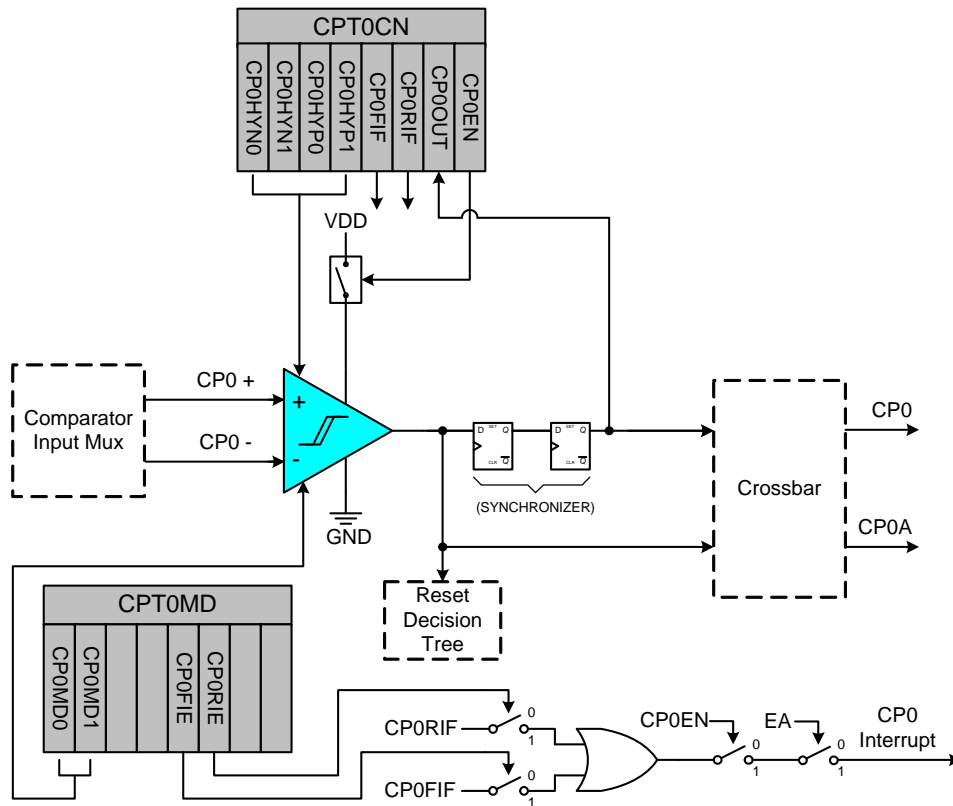
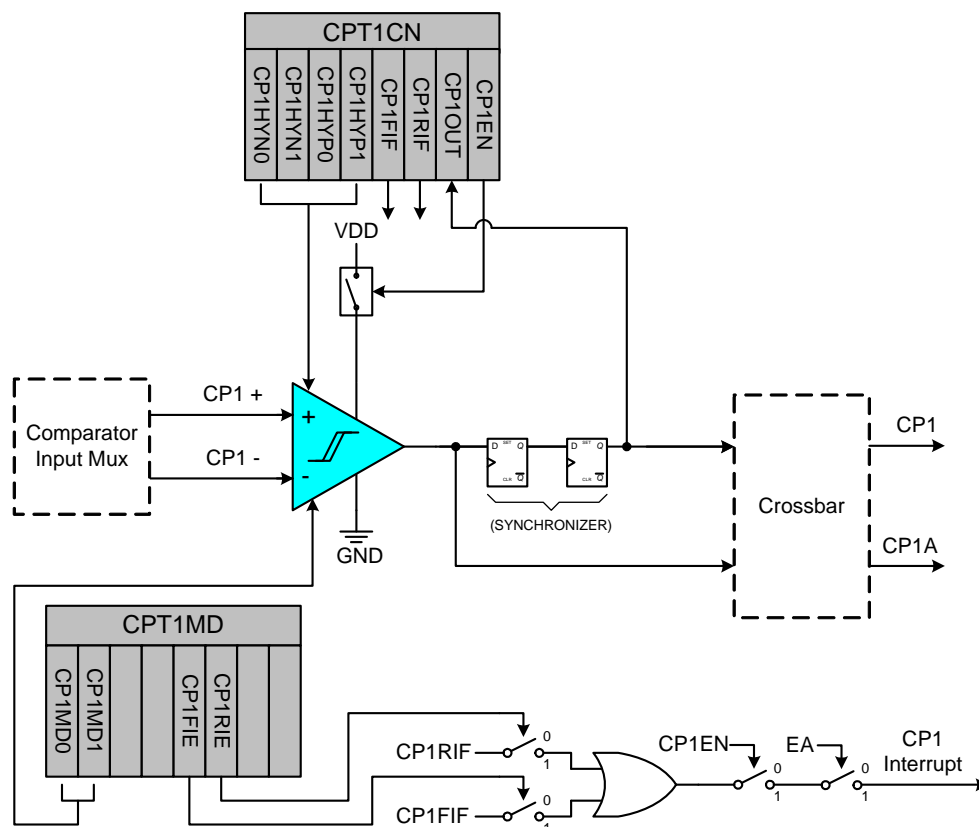

Figure 14.1. Comparator0 Functional Block Diagram
Figure 14.2. Comparator1 Functional Block Diagram
C8051T620/621/320/321/322/323 devices include two on-chip programmable voltage comparators: Comparator0 is shown in Figure 14.1, Comparator1 is shown in Figure 14.2. The two comparators operate identically with the following exceptions: (1) Their input selections differ as described in Section “14.1. Comparator Multiplexers” on page 82; (2) Comparator0 can be used as a reset source.